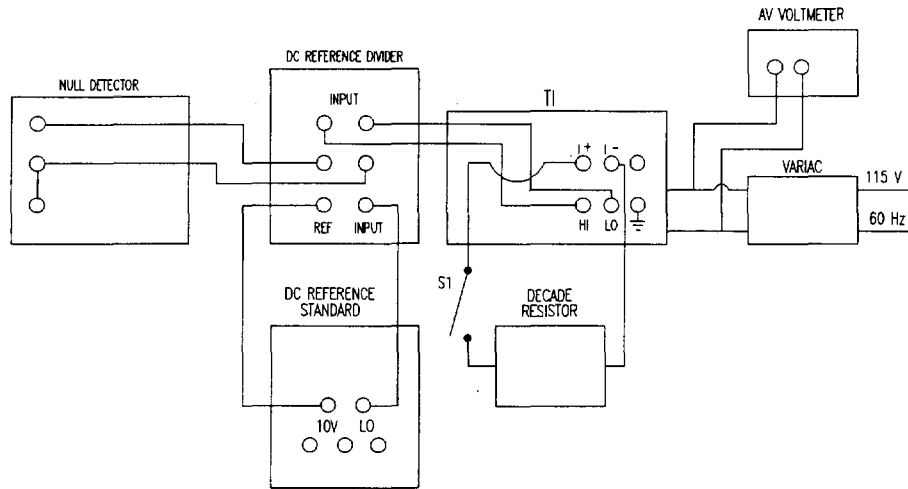

Figure 2.
- 4.2.1 Set the TI POWER switch to OFF and connect the equipment as shown in Figure 2.
- 4.2.17 Set the Decade Resistor to 400 Ω , close switch S1 in Figure 2, set the TI SENSE REMOTE ON, and connect the TI HI to I+ and LO to I-.
- 4.2.19 Open switch S1 in Figure 2, remove the shorts connected in 4.2.17 and set the TI SENSE REMOTE OFF.